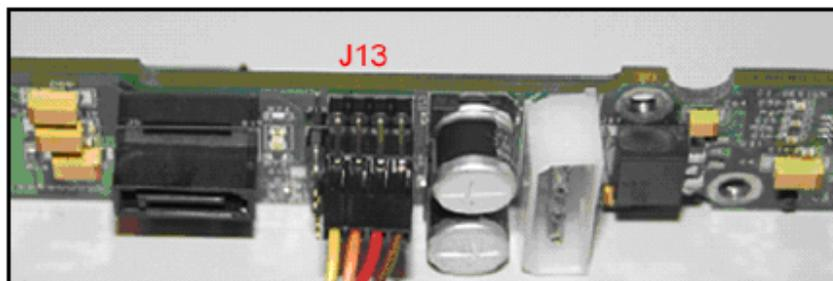

Figure 2 – Cable Installation on backplane
- a. See Figure 2 for installation on backplane.